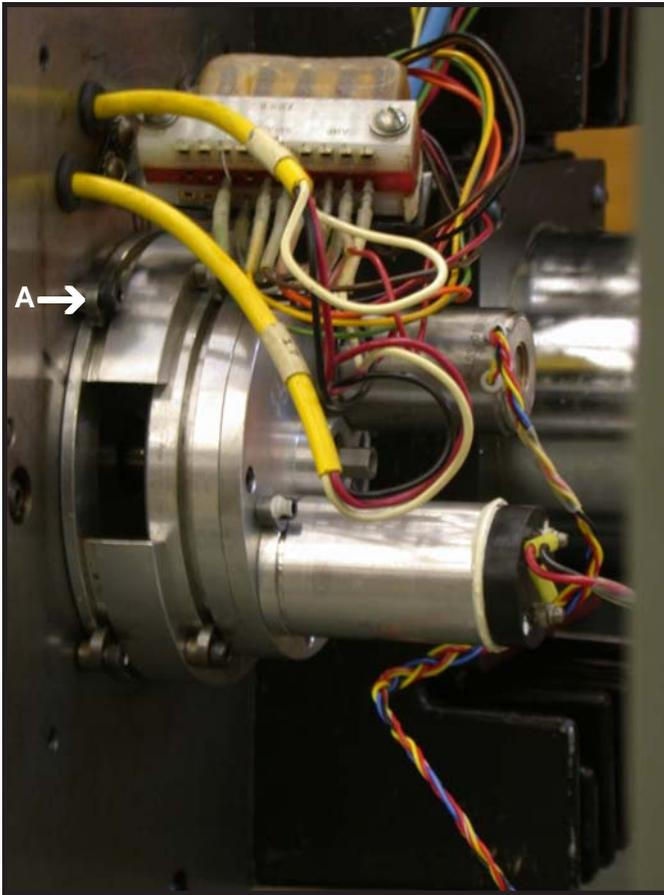

Figure 4.2.5
After the (2) set screws in the coupler have been loosened the Z axis feedback unit can be removed by loosening the (4) cam lock screws (Figure 4.2.5 - A).